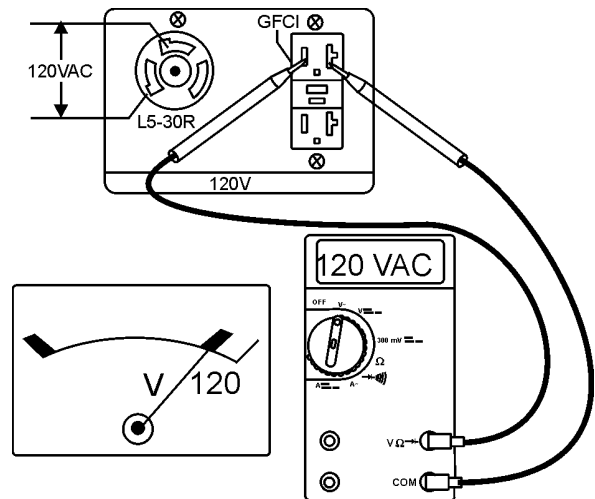

Figure 18. 120 V and GFCI Receptacles
- Read the *voltmeter* on the front panel of the generator (Figure 18) and verify that 120 VAC is present at the 120V twist-lock and GFCI duplex receptacles. For additional verification of voltage, an external voltmeter can be used to measure the output voltage as shown in Figure 18.